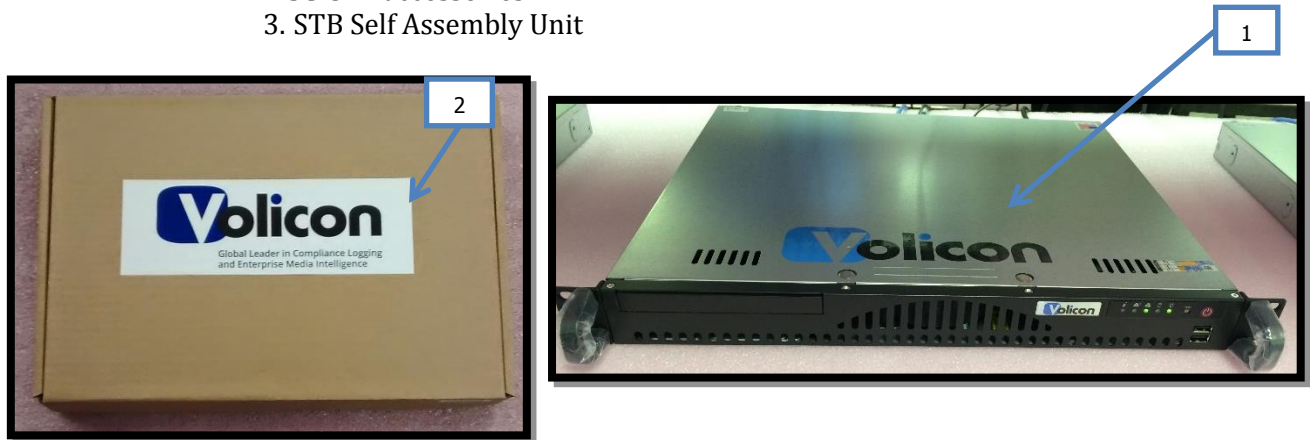

Figure 2.1. Volicon shipment – Scout & Accessories Box.
a. Figure 2.1 shows the components for the Volicon Scout installation.